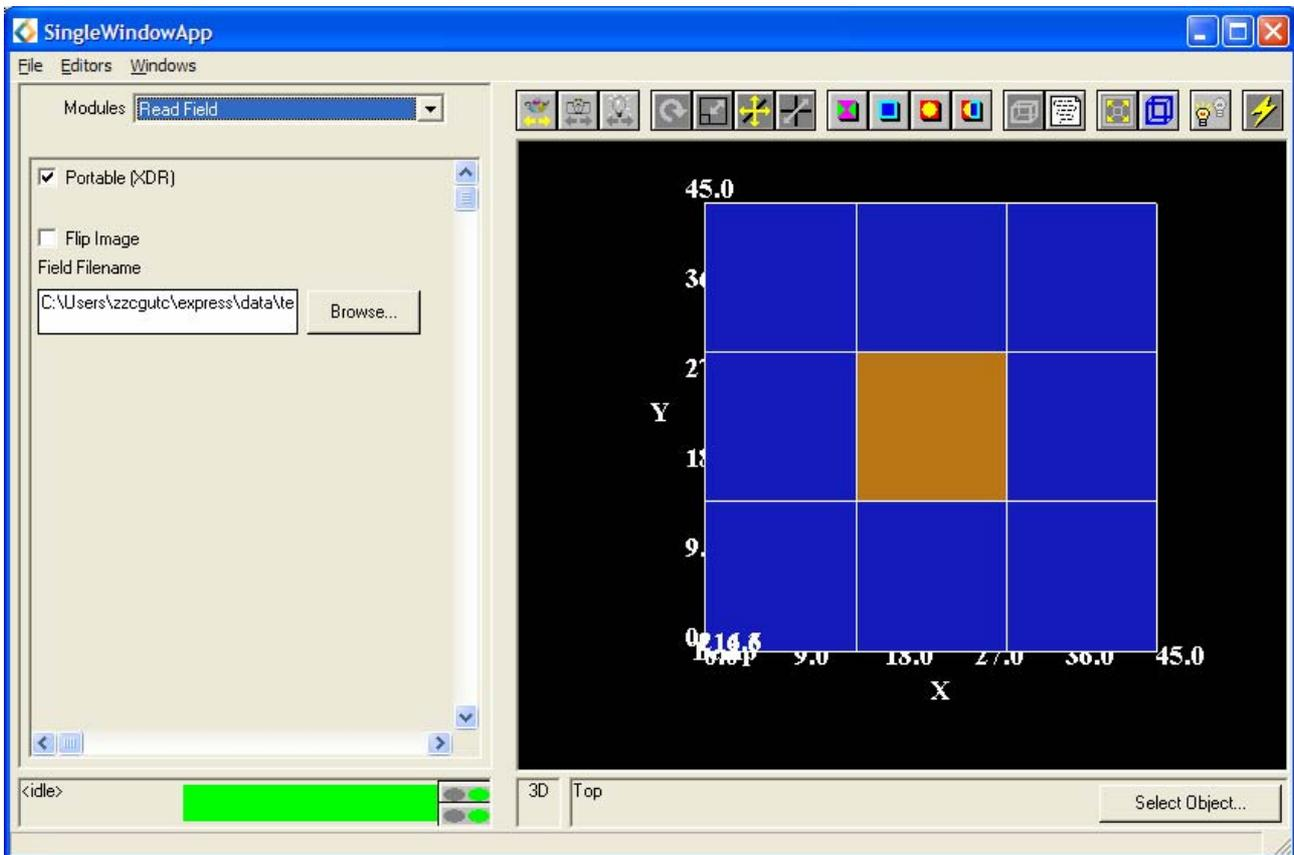

Figure 3.15: Image produced by the city\_plot Network
- If an image similar to the one shown in Figure 3.15 then the field file has been successful.